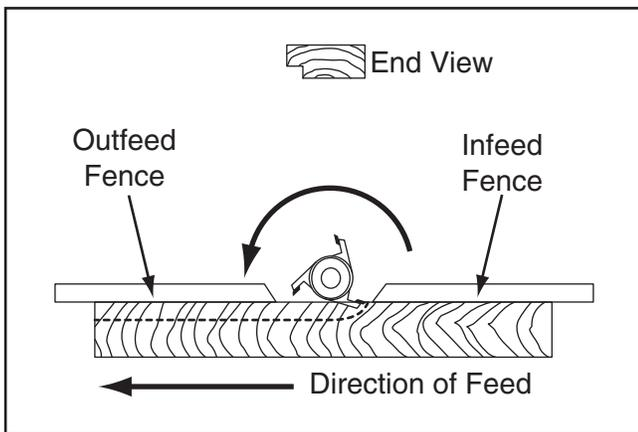

Figure 33. Partial feed fence adjustment.
5. Run a test piece through shaper (see **Figure 33**).